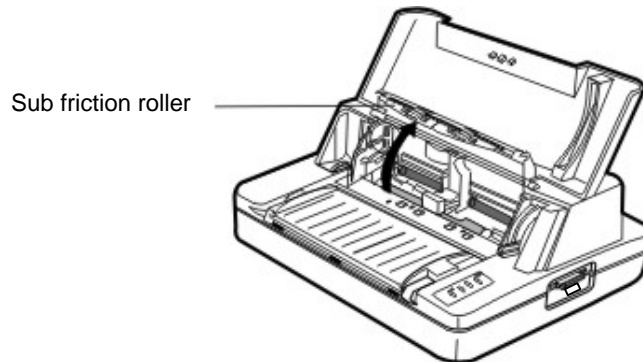

Figure 2-6 Opening the sub friction roller unit
- 3 Pull the Sub friction roller unit by gripping the center area of the unit by your forefingers. Then lift it up until the unit is positioned on the top of printer as shown in Figure 2-6.